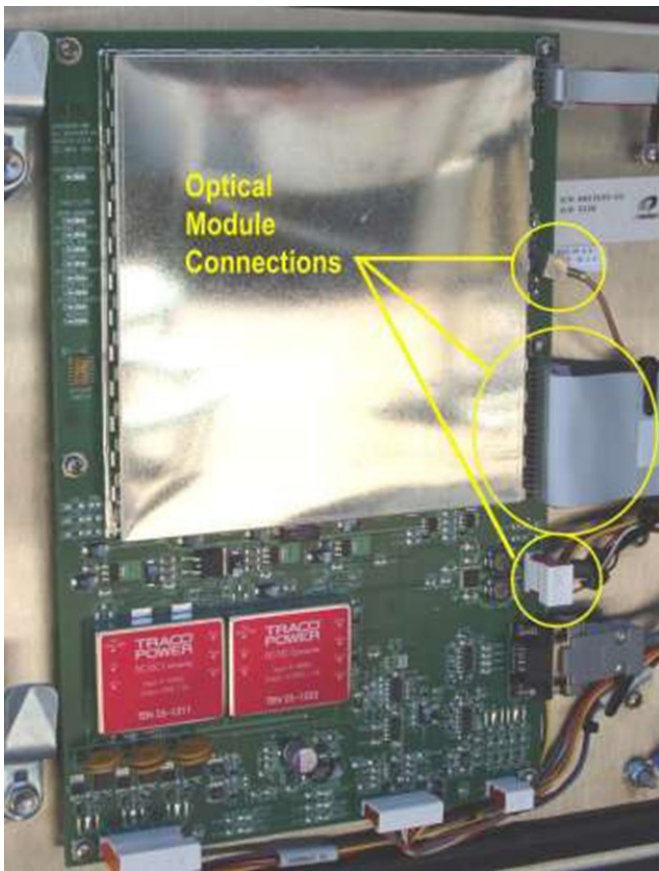
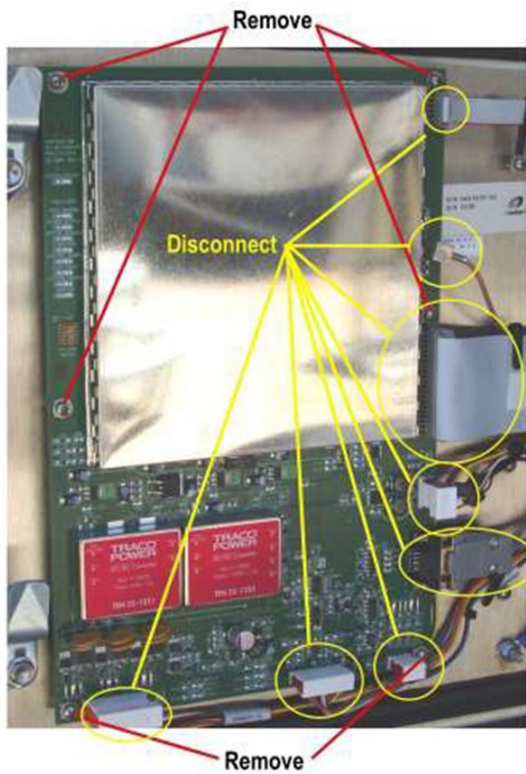
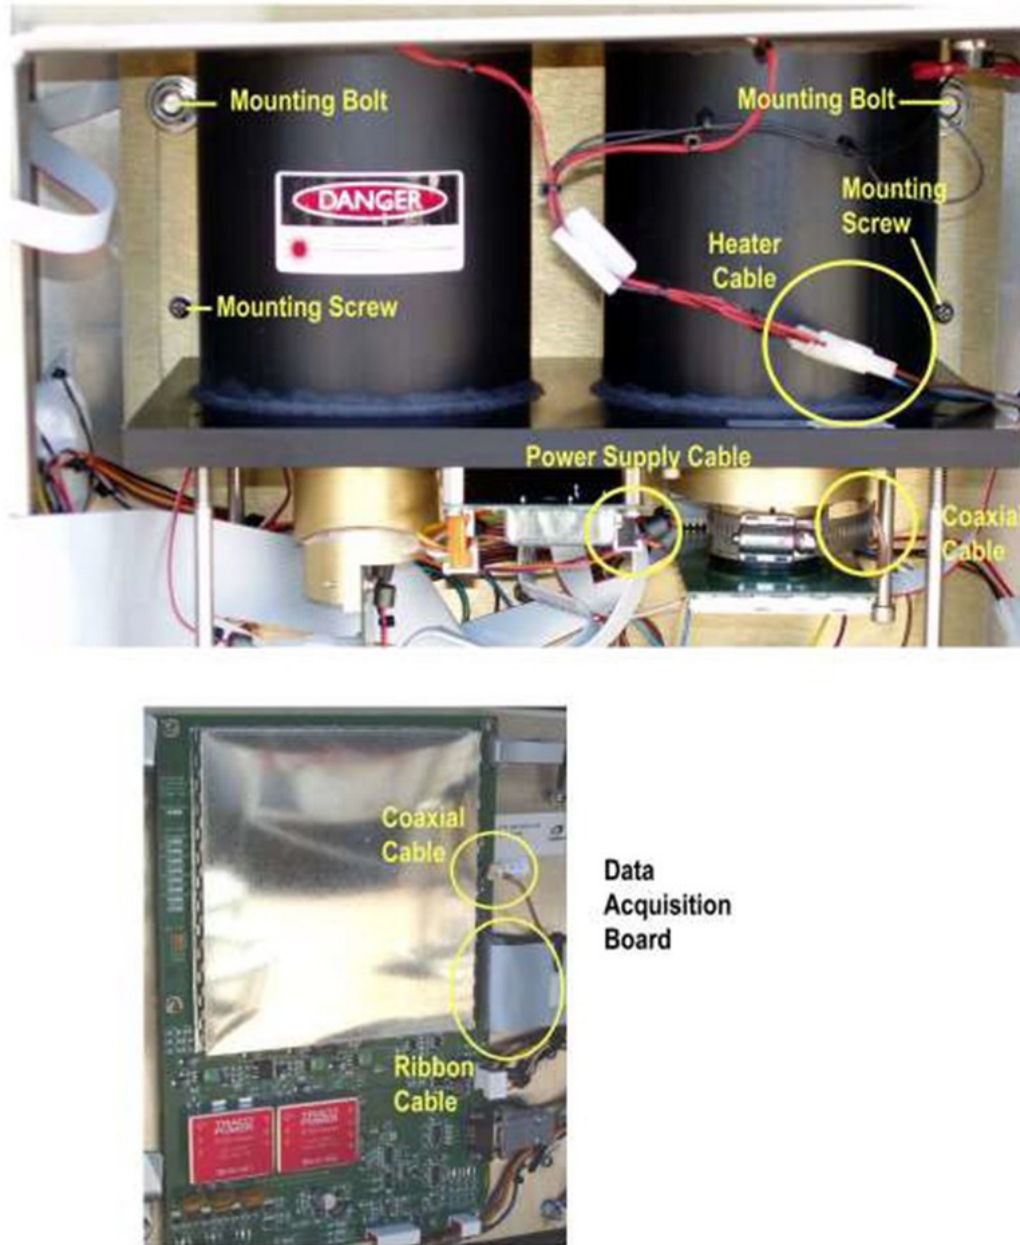
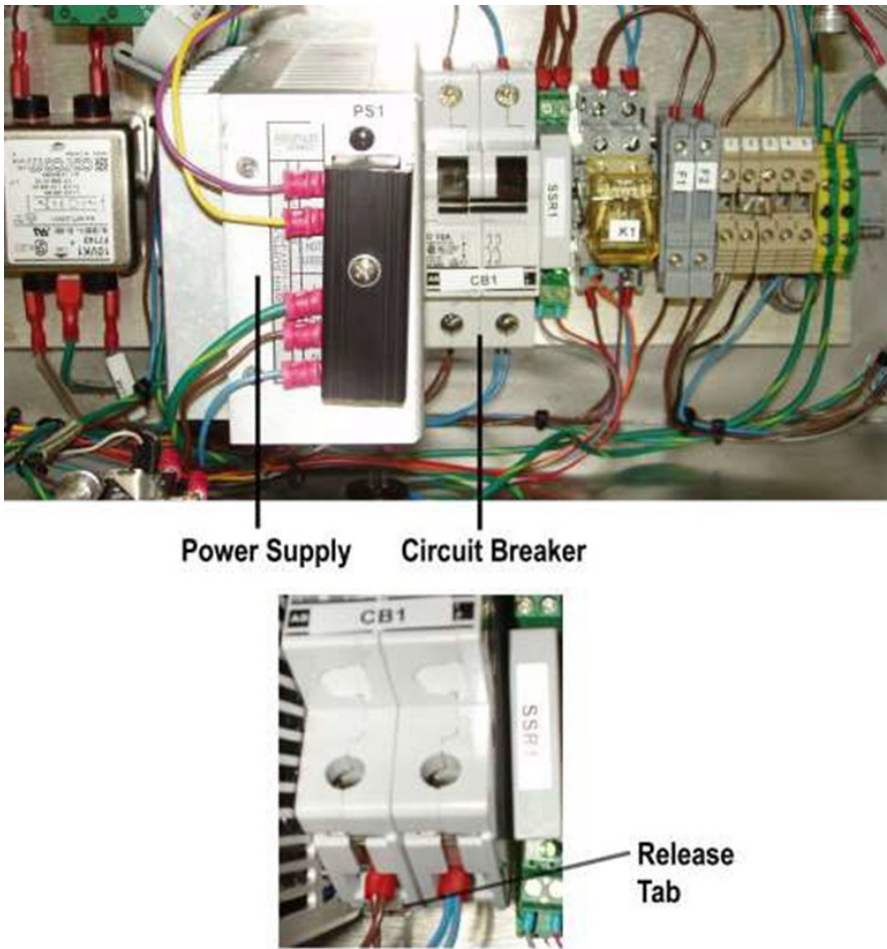

Figure 16. Optical Module Connections at the Data Acquisition Board
Figure 17. Data Acquisition Board Removal
Figure 18. Optical Module Removal
Figure 19. DIN Rail Component Removal
2. Check connections between modules (see Figure 16, Figure 17, Figure 18, and Figure 19). Remove connectors and reconnect them, then turn the system on again.
3. If both the optical module and Data Acquisition Board indicate failures, disconnect the optical module's three cables from the Data Acquisition Board to ensure it is not causing the Data Acquisition Board to fail (see Figure 16).
8.2.1 Data Acquisition Board (Figure 17)
8.2.2 Optical Module (Figure 18)